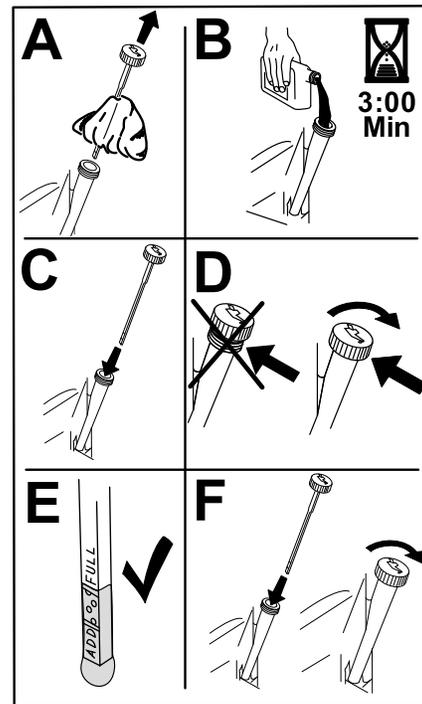

Figure 60
6. Slowly pour approximately 80% of the specified oil into the filler tube and slowly add the additional oil to bring it to the Full mark (Figure 60).